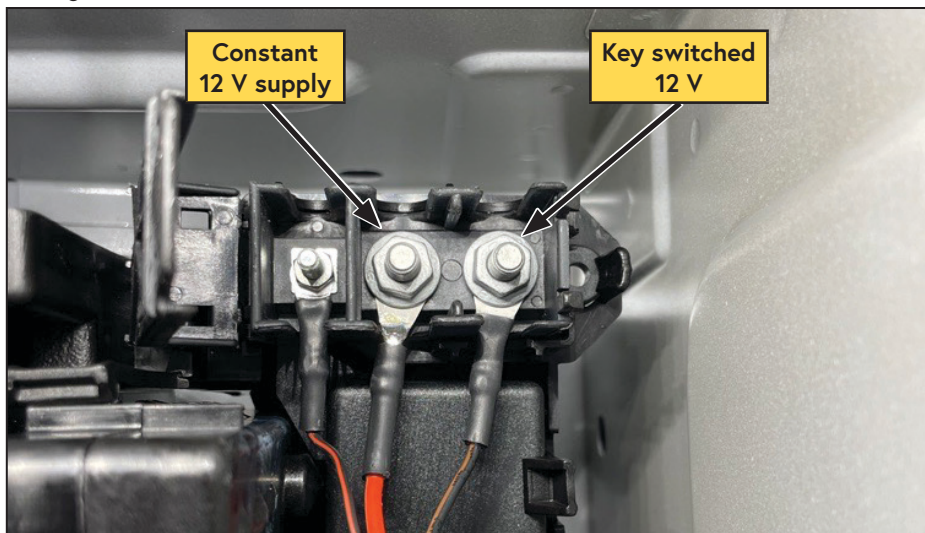

Figure 44 — Tie into vehicle power
- Connect the ring terminal on the red wire to the constant 12 V supply post (Figure 44).
- Using a ring terminal, connect the violet wire ("KEY SW PWR") to the key switched 12 V post (Figure 44).